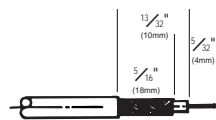

Figure 4
- Refer to diagrams in Figures 4, 5, and 6 while performing the following steps.